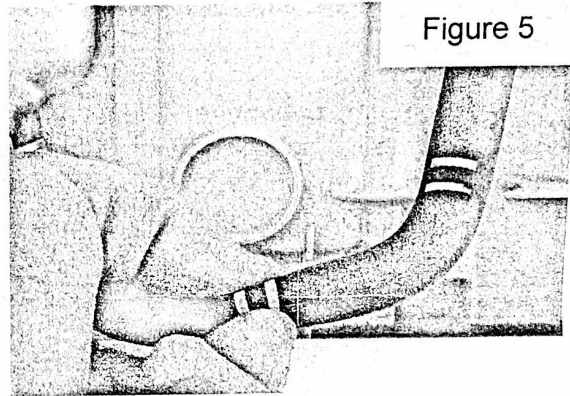

Figure 5
Step 2- Using a pair of pinch pliers, clamp the tube so the detergent does not flow from the bulk tank into the dispenser box. The tube is flexible and does not take much pressure to clamp it closed. Drain hose and or Air-conditioning pinch off pliers both work well. See figure 5.